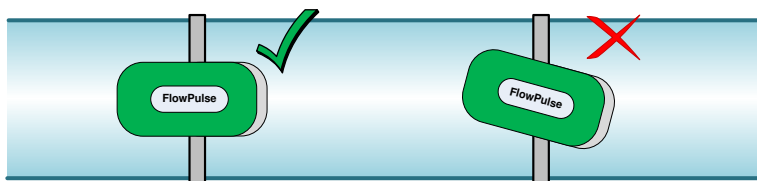

Figure 3: Flow Pulse correctly aligned along the pipe axis.
- Ensure that the FlowPulse is aligned along the pipe axis, as illustrated in Figure 3: